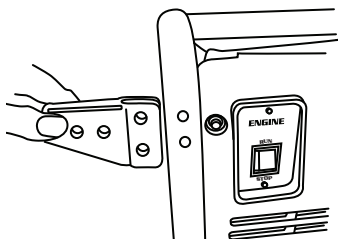

FIGURE 12: Handle Bracket to Frame
- Handle brackets (2)
- Handle bars (2)
- Pin and chain (2)
- Rubber handle grips (2)
- M6 X 40 X 8 mm flange-head hex bolts (6)
- 10 mm flange serrated nuts (6)
1. Hold handle bracket over pre-drilled holes on frame as shown in Figure 12.